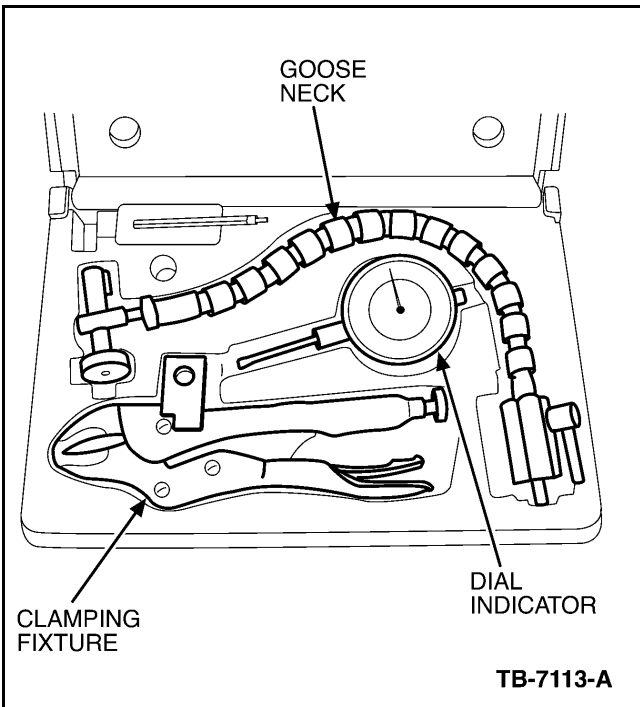
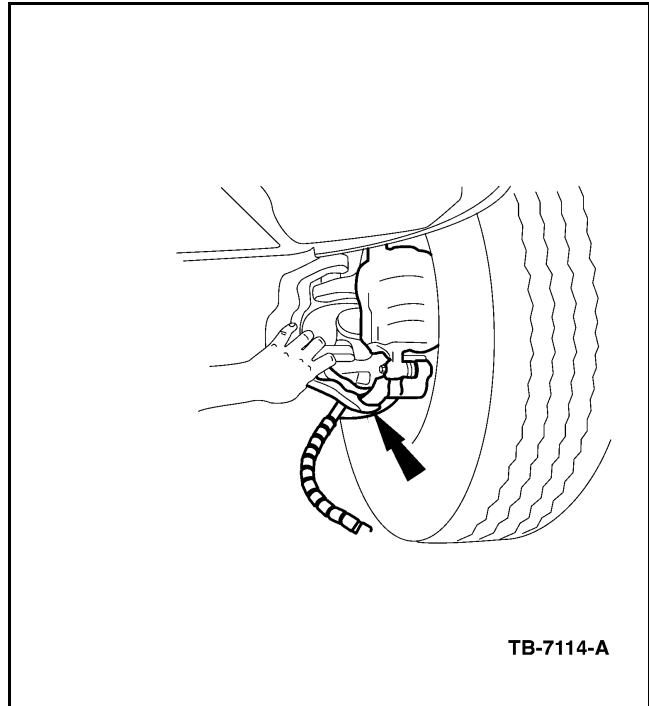

Figure 2 - Article 03-11-2
Figure 3 - Article 03-11-2
6. Fasten the dial indicator base (Figure 2), from Rotunda Kit 164-R2724 (or equivalent), to the knuckle as shown (Figure 3).